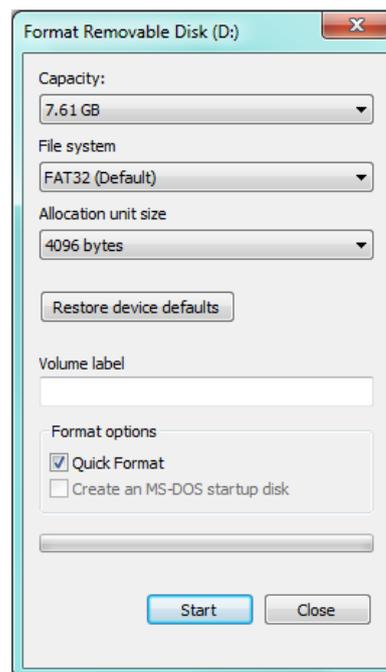

Figure 4 Format the USB Drive
7. Right-click on the drive and select the option marked 'Format'. The window will open as per *Figure 4*.